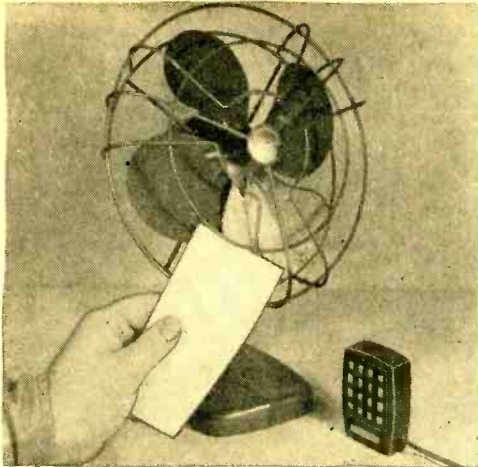

Fig. 12. An electric fan and a piece of stiff paper may be used to make many varied sounds, an airplane motor, a buzz saw, and others.
*Airplane Motor or Buzz Saw:* Either of these sounds may be simulated by using a piece of stiff paper (or cardboard) and an electric fan. With the fan running, hold the paper against the edge of the blade, as shown in Fig. 12. Changing the pressure and using papers of varying stiffness will enable you to simulate different sounds.